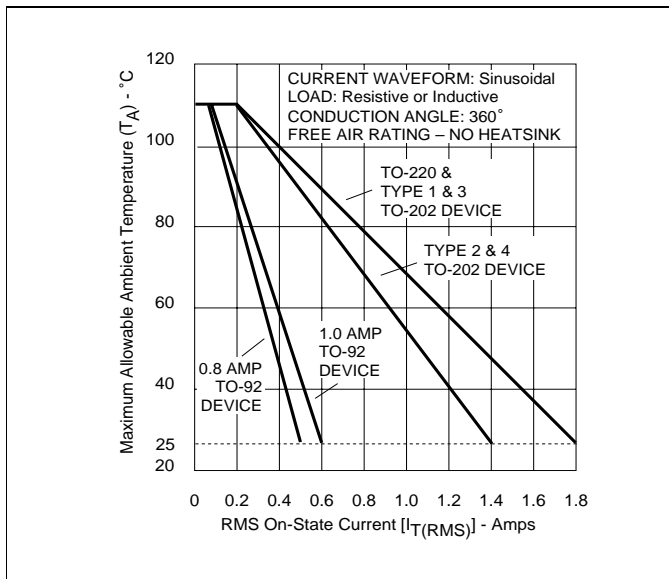

Figure 1.1 Maximum Allowable Ambient Temperature vs On-State Current
- See Figures 1.1, 1.2, and 1.3 for T_A or T_C vs I_T (RMS).